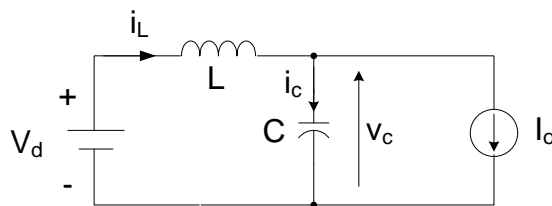

Figure 6.1 Series resonant circuit
6. a. The series resonant circuit, as shown in figure 6.1, is supplied by a dc source V_d and the capacitor is in parallel with a dc current I_o , which represent the load. The initial conditions for the inductor current and capacitor voltage are $i_L(t_0) = I_{L0}$ and $v_C(t_0) = V_{C0}$, respectively. With reference to figure 6.1, $i_L(t)$ and $v_C(t)$ are given by: